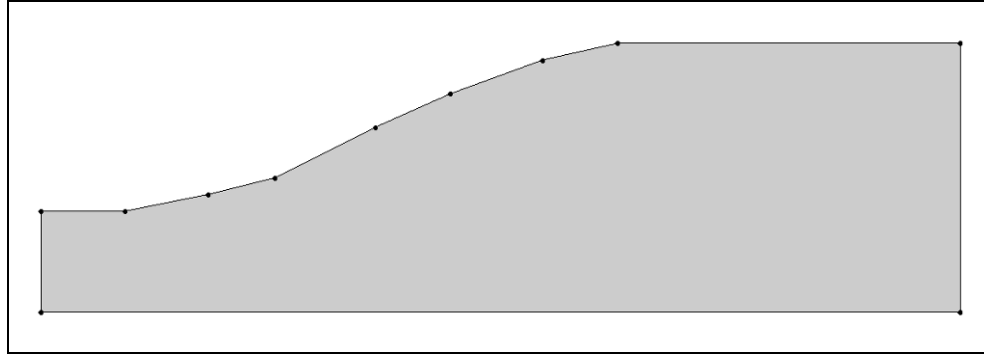

Figure 1 The underwater slope before excavation
3. Using Figure 1 (below) as a guide, click on the points to connect them with arcs to create the slope. It doesn't matter where the user starts or which direction the user goes.
At this point, the user should see something like Figure 1 below.